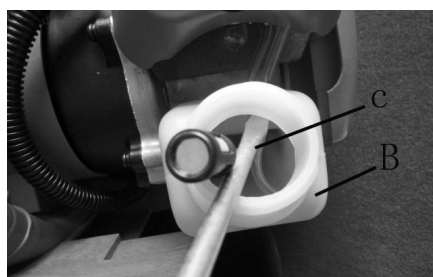

Fig.17
1. Completely remove fuel cap from fuel tank (B) to be able to remove fuel filter (C) from tank. Use a piece of wire (C) with a hook formed at the end to pull filter out of tank (Fig.17).